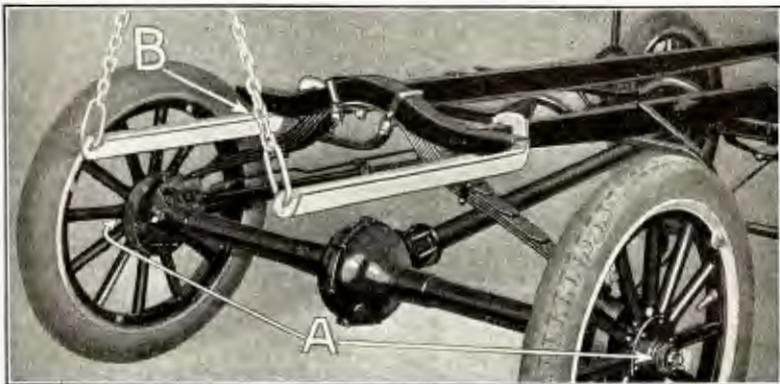

Fig. 53
- (a) Remove hub caps and run off axle shaft nuts (See "A" Fig. 53).